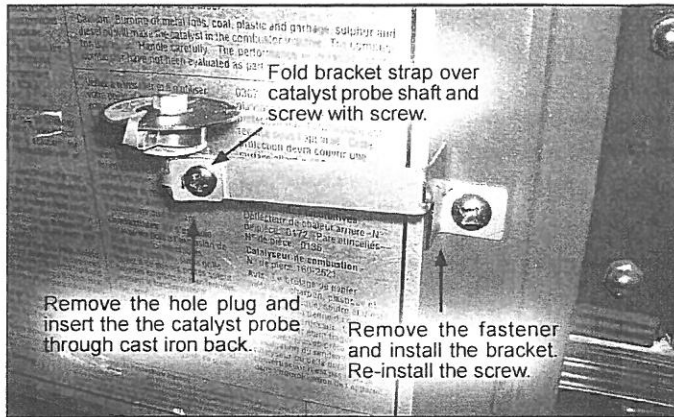

Figure 3 - Intrepid II - Attach the temperature probe.
**NOTE:** The hole plug must be in place if you decide not to use the temperature probe. Install the rear heat shield as described in Step 3. To install the catalyst probe, insert the probe through the heat shield into the back of the stove. Install the bracket and secure the probe to the bracket using the #10 sheet metal screw supplied. (Figure 3)
2c. For the Vigilant II Coal Stove described in the **SAFETY NOTE ONLY:** (ash pan located in the ash drop below the bottom of the stove). The flue collar insert is shipped flat and must be folded to the correct shape before installation. When folded correctly, the insert will be attached to the outside of the heat shield as illustrated. (Figure 3)